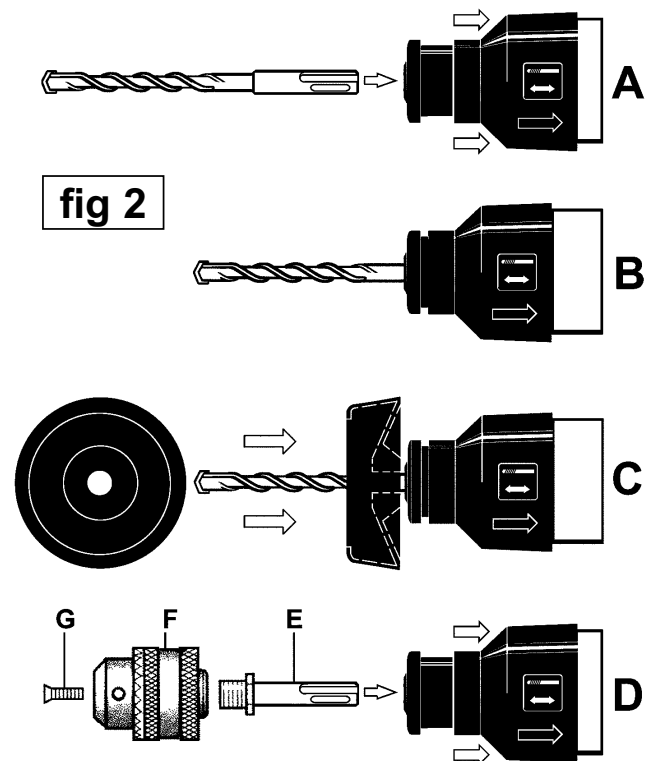

fig 2
COMPONENT LIST Figure 2.
3.1.2. Inserting a drill bit/chisel. Select an appropriate drill bit (or chisel) for the task. Check that it is clean and sharp. Lightly lubricate the shank of the bit, pull drill spindle lock (fig 2-A) back and hold. Insert bit into the spindle carrier and turn the bit until it drops fully into place. Release the spindle lock and check that the bit is firmly held in place (fig 2-B). To remove the bit pull back and hold the spindle lock and lift the bit out.
3.1.3. Fitting the dust cup. The dust cup (fig 2-C) is mainly used when drilling vertically upwards and will collect a proportion of the dust and debris generated that might otherwise enter the spindle lock or ventilation on the drill. To use the dust cup attach the appropriate bit and then push the cup onto the bit shaft. Ensure the cup bowl shape is facing toward the tip of the bit.
3.2. FITTING THE CONVENTIONAL DRILL CHUCK (See fig.2-D)
3.2.1. Fit the conventional drill chuck (fig.2-F) by screwing it onto chuck spindle (E). Open chuck jaws and lock the chuck with screw (G).
Keep the shanks of drill bits and chisels lightly lubricated. Periodically pull back the drill spindle lock and apply grease to the outside of the bit holder. (See fig.2-A) The internal mechanism is non-user serviceable. Where long term maintenance is required the drill should be returned to your local Sealey dealer.